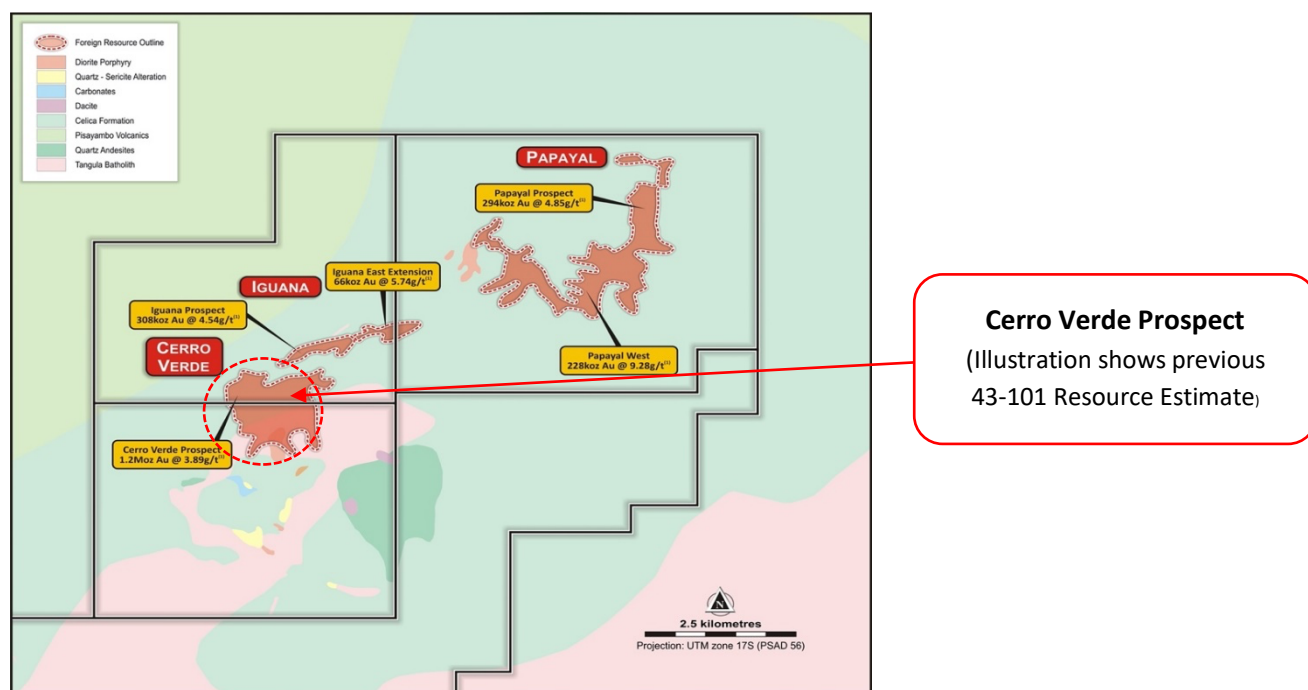

Figure 1: Location of Cerro Verde Prospect within overall Dynasty Project
The Dynasty Gold Project is an advanced stage exploration project comprising five (5) contiguous titles and 139km² in area. Three of these concessions received Environmental Authorisation in 2016 and are fully permitted for exploration and small-scale mining. Exploration works at the Dynasty Gold Project have outlined an extensive zone of epithermal veining over a nine (9) kilometres strike and over one (1) kilometre in width. Previous explorers had estimated a Canadian NI 43-101 resource estimate (referred to as a Foreign Resource) of 14.4 Million tonnes at 4.5g/t gold and 36g/t silver. This resource estimate was compiled using a dataset of 1,160 trenches and 26,733 metres of diamond core. It was estimated by polygonal methods which is not yet considered JORC 2012 compliant. The foreign resource estimation This historic resource estimate was compiled using a dataset of 1,160 trenches and 26,733 metres of diamond core and essentially breaks the Project's 9km of strike into three main prospects: Papayal; Iguana; and Cerro Verde (refer to Figure 1). The information in this announcement relating to Mineral Resource Estimates for the Dynasty Gold Project is a foreign estimate and is not reported in accordance with the JORC Code. A competent person has not done sufficient work to classify this foreign estimate as a mineral resource in accordance with the JORC Code and it is uncertain that following further exploration work that this foreign estimate will be able to be reported as a mineral resource in accordance with the JORC Code (refer to ASX announcement dated 30 April 2020 and Notes to Foreign Mineral Resource Estimate below).